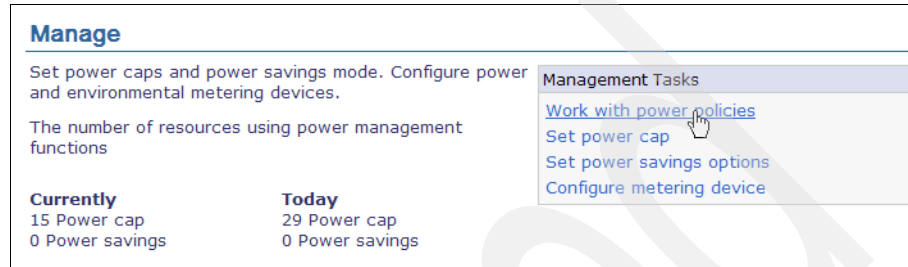

Figure 7-45 Creating a group power capping policy - 1
1. Start the power policy editor wizard by clicking **Work with power policies** in the Manage section of the Active Energy Manager home page, as shown in Figure 7-45.